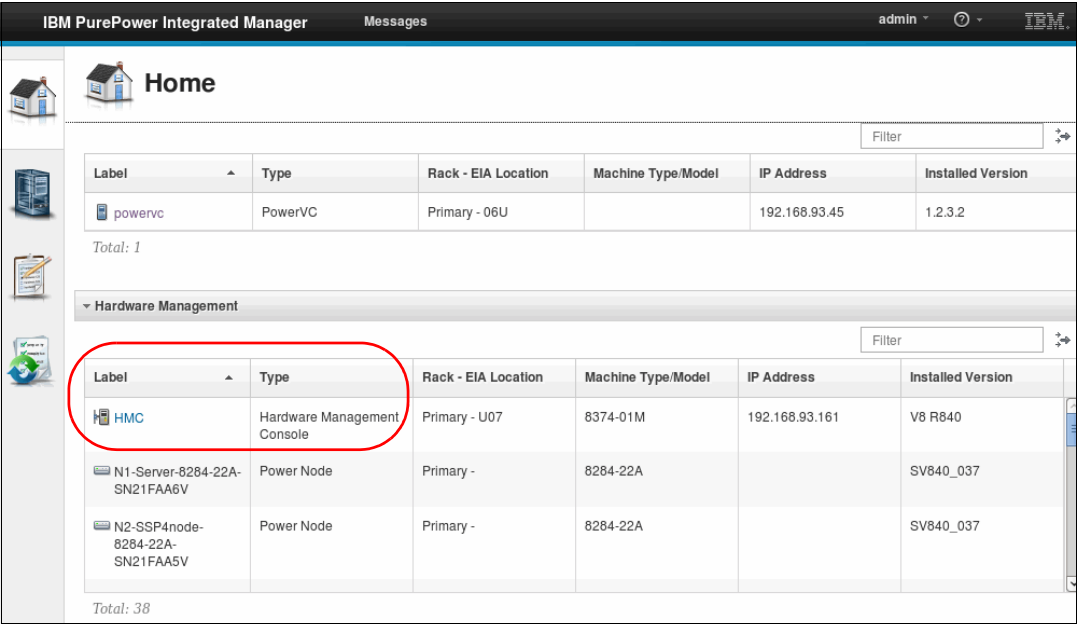

Figure 1-14 Start the HMC web interface
- 1. Log on to the PurePower Integrated Manager, and select the HMC link (see Figure 1-14) to start the HMC web server interface.